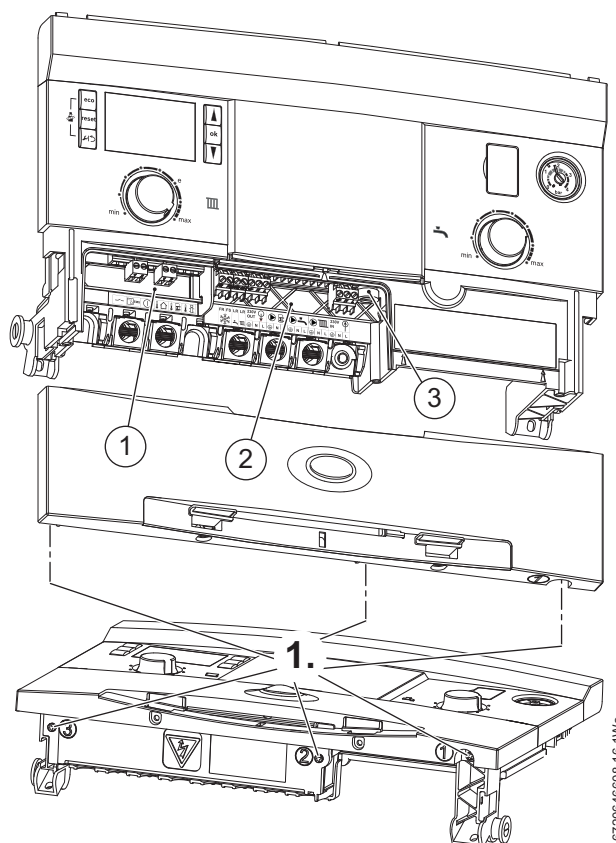

Fig. 49 Removing the installer access cover
1. Refer to figure 49 and release the three captive screws securing the Installer access cover.